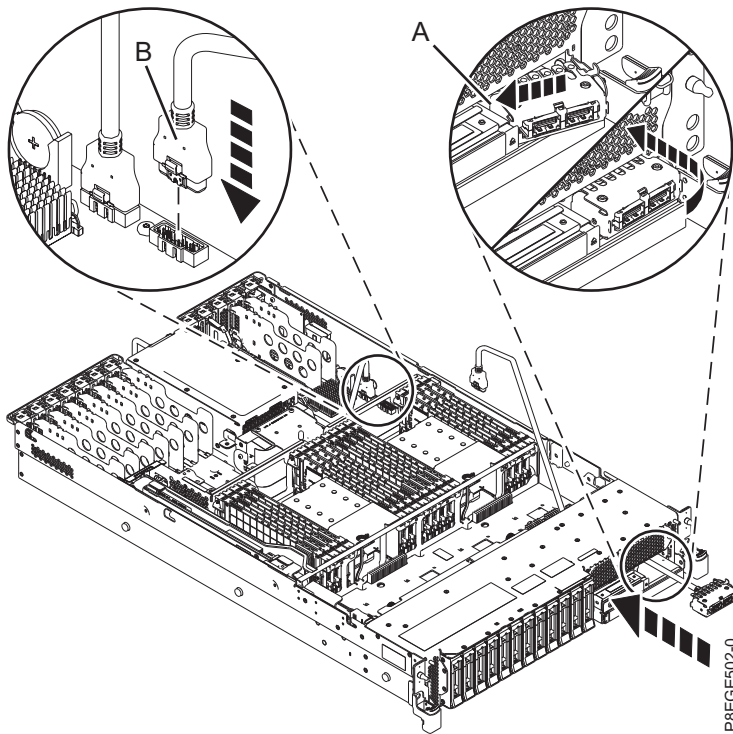

Figure 4. Installing the front USB cable
2. Insert the plug end of the USB cable into the opening on the front of the system, as shown in Figure 4. Route the cable along the right side of the system chassis.
3. Latch the USB cable housing into the opening on the front of the system by inserting the tab (A) on the left side of the housing into the slot. Pivot the housing into the opening until the housing latches into position on the right side. See Figure 4.
4. Plug the USB cable (B) into the connector on the system backplane as shown in Figure 4.